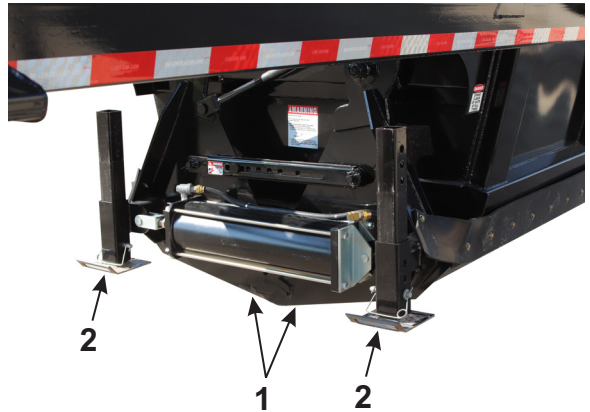

Figure 3-31 – Locked Belly Dump Gates
- h. Make sure that the belly dump gates (1, Figure 3-31) are closed and secured and the load legs have been retracted and secured in the travel position (2, Figure 3-31).